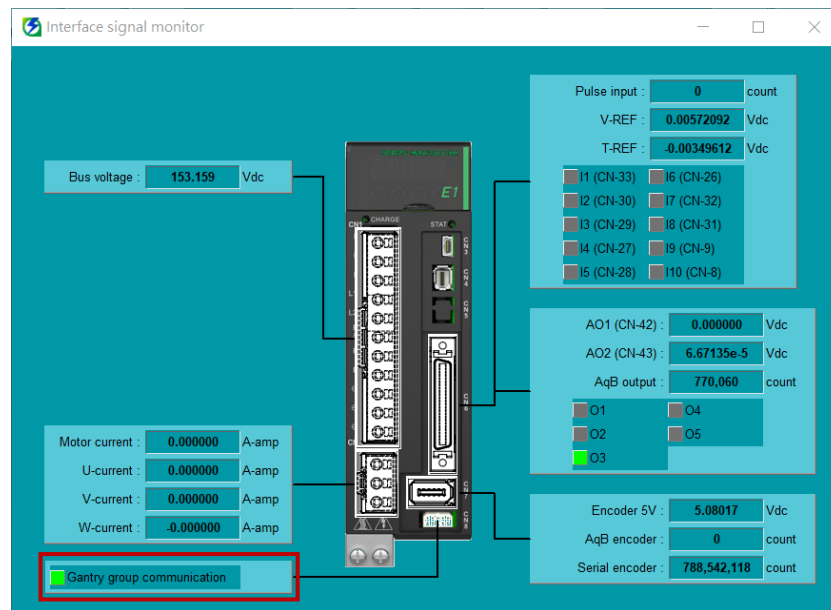

Figure 3.2.2
- II. Open **Interface signal monitor** window in Thunder main window to ensure master axis' communication is established, as the red frame in figure 3.2.2 shows.